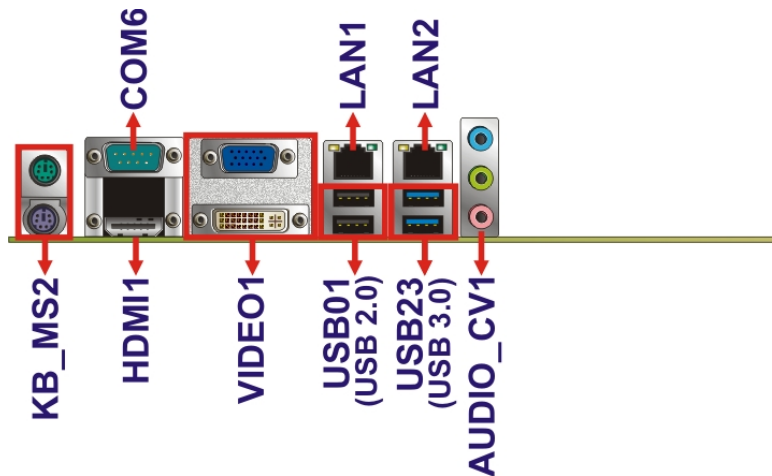

Figure 3-27: External Peripheral Interface Connector
CN Location: See **Figure 3-27**
The USB connector can be connected to a USB device. The USB 2.0 ports are labeled as USB01 and the USB 3.0 ports are labels as USB23. Please refer to **Figure 3-27**.
- CN Location:** See **Figure 3-27**